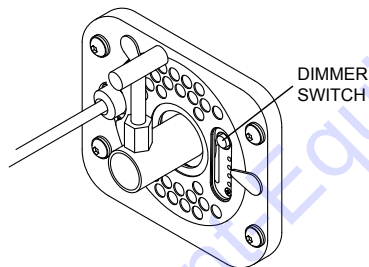

**Figure 14. Connecting to Power Source**
1. Connect the AC power cord to a 120 VAC external power source or to a 120 VAC receptacle on a generator (Figure 14).